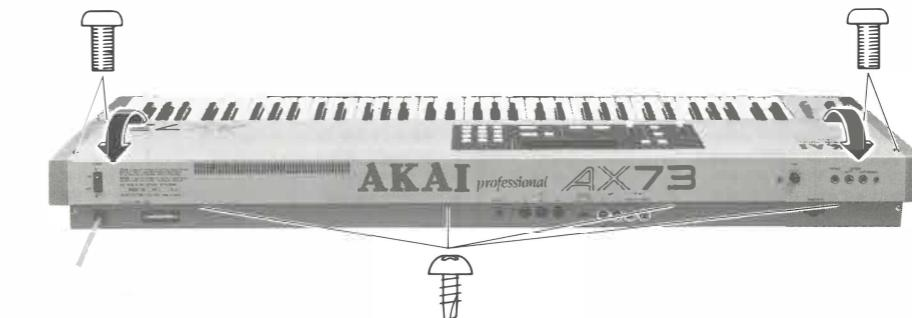

Fig. 1-1
1-1. HOW TO OPEN THE FRONT PANEL (Refer to Fig. 1-1)
- 1) Remove 8 screws as shown Fig. 1-1, and open the Front Panel as shown Fig. 1-3.